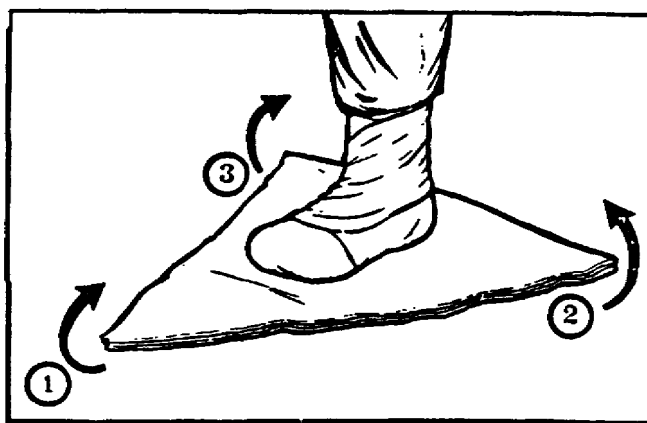

Figure 13. Hudson Bay duffel.
e. Hudson Bay Duffel. A triangular piece of material used as a foot covering is known as the Hudson Bay duffel. To improvise this foot covering, cut two to four layers of cloth into 30-inch squares. Fold the square to form a triangle. Place the foot on this triangle with the toes pointing at one corner. Fold the front cover up over the toes and the side corners, one at a time, over the instep to complete the foot wrap (Figure 13).